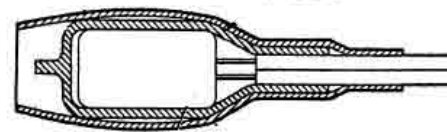
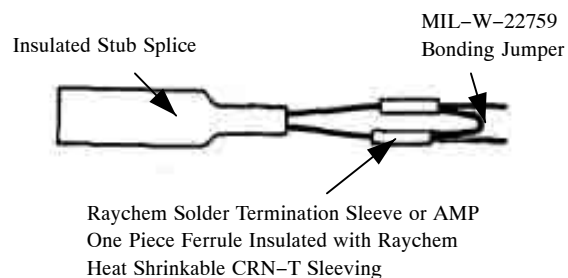

Figure 19. Shrinkable End Caps and Sleeve Installation
Figure 20. Shielded Stub Splice
f. The preferred method for insulating the stub splice is as follows (Figure 19):
(1) Select proper size self-sealing end cap (Table 6).
(2) Position end cap on stub splice and shrink.
g. Iternative method for insulating the stub splice is as follows (Figure 20).
(1) Select proper size CRN end cap (Tables 4 and 5).
(2) Position end cap on stub splice and heat shrink.
(3) Select shrinkable sleeving or CRN-T sleeving (Tables 4 and 5).
(4) Cut sleeve approximately 1.2 inches in length.
(5) Position sleeve over end cap and heat shrink.
h. When shielded wires are stub spliced, shields are also terminated and joined (Figure 20).